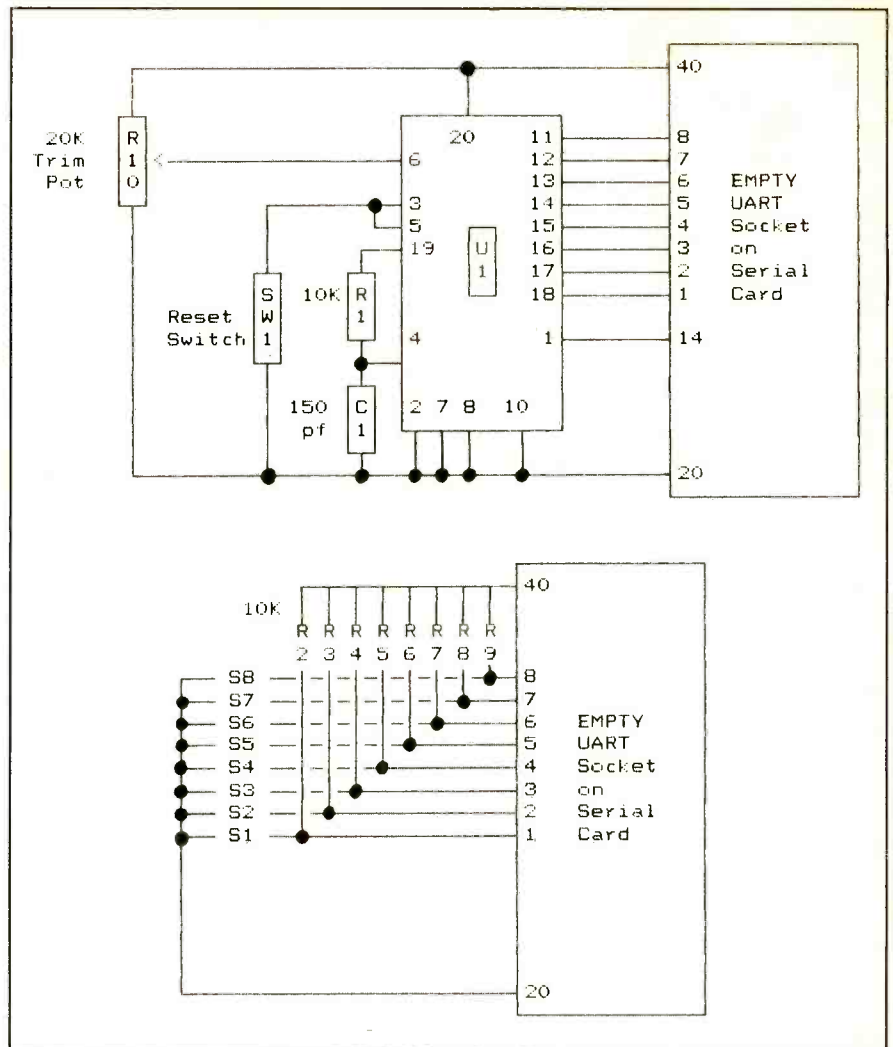

Fig. 2. Schematic details for test circuits for (A) analog input and (B) parallel digital input.
Perforated board with holes on 0.1" centers; sockets for all ICs; materials for tester circuit [20,000-ohm potentiometer (R1) eight 10,000-ohm resistors (R2 thru R9) and eight-position DIP switch (S1 thru S8) in Fig. 2]; 40-pin socket header or perforated board (see text); connectors as needed (see text); suitable enclosure (optional; see text); 1" spacers (4); machine hardware; hookup wire; ribbon cable; solder; etc.